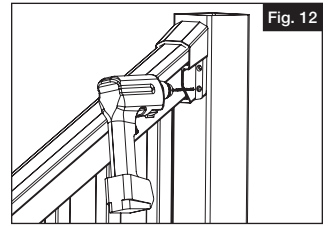
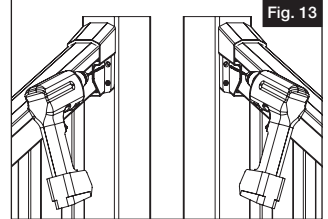

Fig. 12
Fig. 13
- a. Screw in top rail metal brackets to underside of each end of rail, with #10 x 1" square drive screw (sold separately) in middle slot of bracket (Fig 12).
- b. Begin at one side of rail and align first baluster with first routed hole on bottom side of top rail and snap top rail into position (Fig. 13).
- a. Center your bracket on the post. Using the holes in the bracket as a guide, pre-drill one of the lower holes with a $\frac{5}{32}$ " drill bit (Fig 12). Drive one of the #10 x 2" screws through this hole. Pre-drill the other lower hole and drive another 2" screw into it. Now pre-drill the upper 2 holes in the bracket (Fig 13). Drive two more 2" screws into those holes. Be careful not to overtighten.